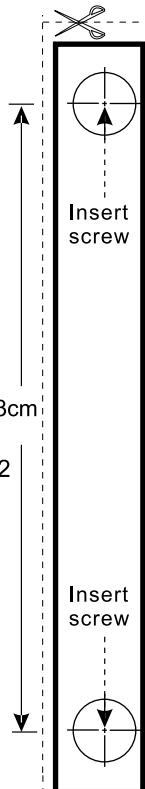

Figure 2
- Mark the wall 8.3 cm vertically apart on the wall, see Figure 2